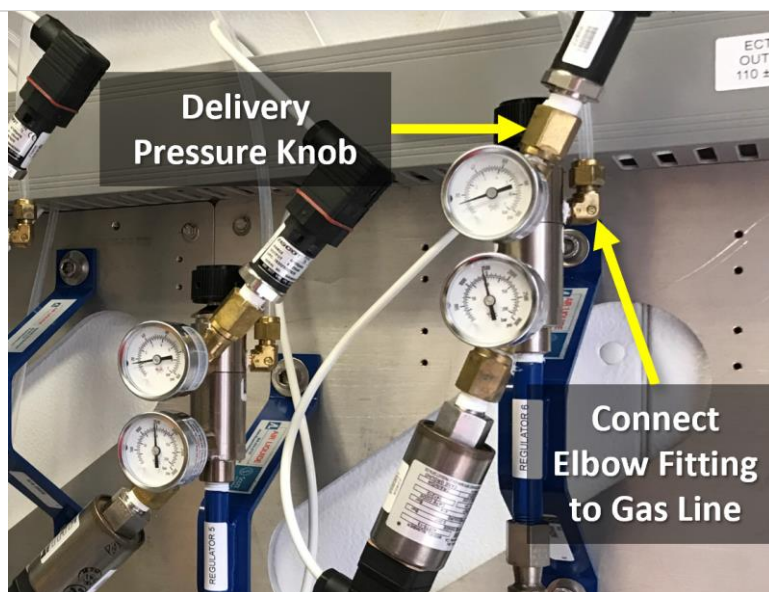
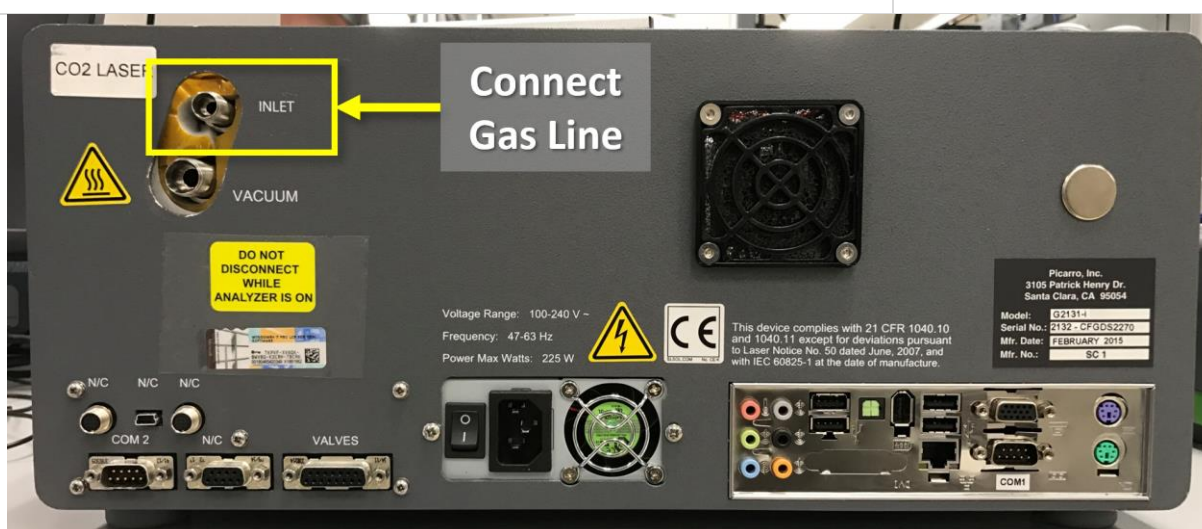

Figure 207. Connect Supplied Line to Regulator.
Figure 208. Connect Supplied Gas Line to PICARRO Inlet to Leak Check.
STEP 7 | Connect the supplied line to the fitting on the regulator (**Figure 207**) and the other end to the Picarro inlet fitting (**Figure 208** below).